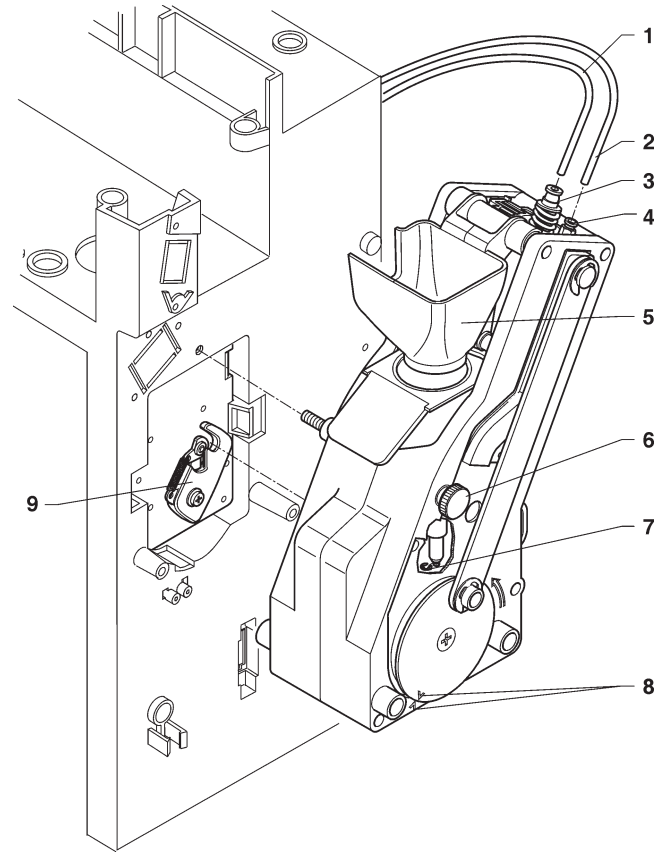

Fig. 22
- remove the Teflon hose from the upper piston, connected to the boiler and to the tube for hydraulic control of the piston, undoing the colour rings (see Fig. 22);
- Remove the coffee funnel (see Fig. 22);